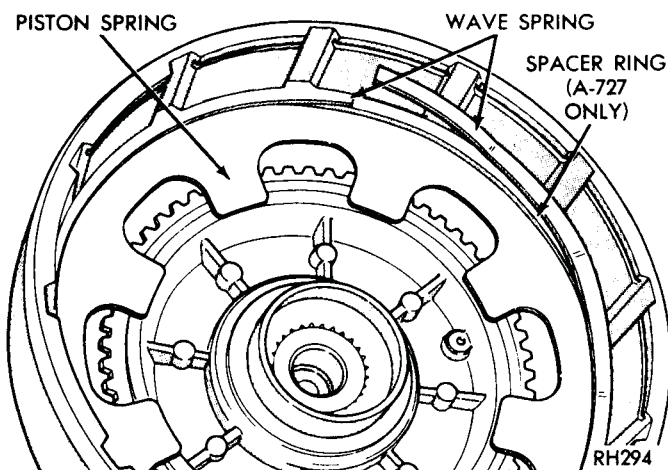
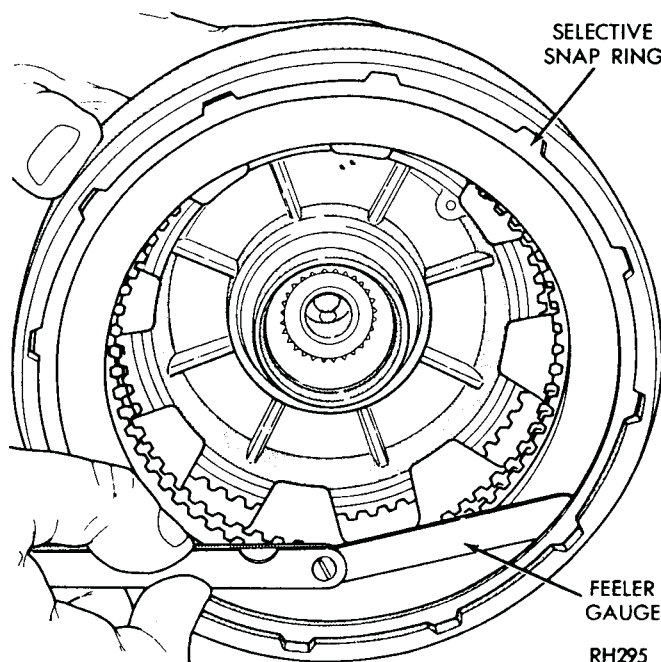

Fig. 28—Install Rear Clutch Spring
Fig. 29—Measure Rear Clutch Plate Clearance
- (3) Place piston assembly in retainer and, with a twisting motion, seat piston in bottom of retainer.
- (4) Place clutch piston spring on top of piston in clutch retainer. Start one end of wave spring in retainer groove (Fig. 28), then progressively push or tap spring into place making sure it is fully seated in the groove.
- (5) Install inner pressure plate in clutch retainer
(6) Lubricate all clutch plates, install one lined disc followed by a steel plate until all plates are installed. Install outer pressure plate and selective snap ring.
(7) Measure rear clutch plate clearance by having an assistant press down firmly on outer pressure plate, then insert a feeler gauge between the plate and snap ring (Fig. 29).
(3) Place piston assembly in retainer and, with a twisting motion, seat piston in bottom of the retainer.
(4) Position clutch retainer over piston retainer splines and support the assembly so clutch retainer remains in place.
(5) Place clutch piston spring and spacer ring on top of piston in clutch retainer, make sure spring and spacer ring are positioned in the retainer recess. Start one end of wave spring in retainer groove (Fig. 28), then progressively push or tap spring into place making sure it is fully seated in the groove.
(6) Install inner pressure plate in clutch retainer with raised portion of plate resting on the spring.
(7) Lubricate all clutch plates, install one lined disc followed by a steel plate until all plates are installed. Install outer pressure plate and selective snap ring.
(8) Measure rear clutch plate clearance by having an assistant press downward firmly on outer pressure plate, then insert a feeler gauge between the plate and snap ring (Fig. 29). See "Specifications" for allowed clearance. If necessary, install a new snap ring